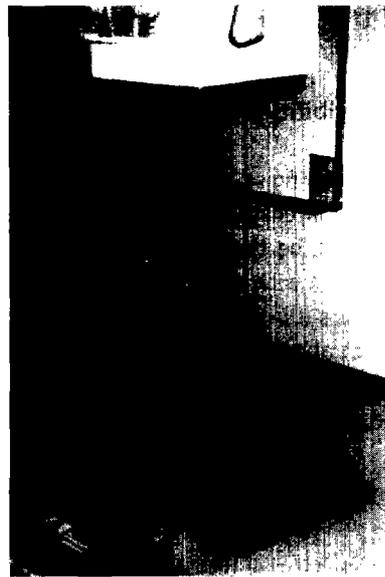

Fig 2–3. Film/screen contact test, using paper clips as a test tool
- Test tool (box of paper clips or sheet of perforated zinc or fine wire mesh, large enough to cover a 35 × 43 cm film, with a square hole, about 10 cm from one edge, approximately 2 to 2 cm square). (see Fig 2–3 and *Appendix A*, page 134).